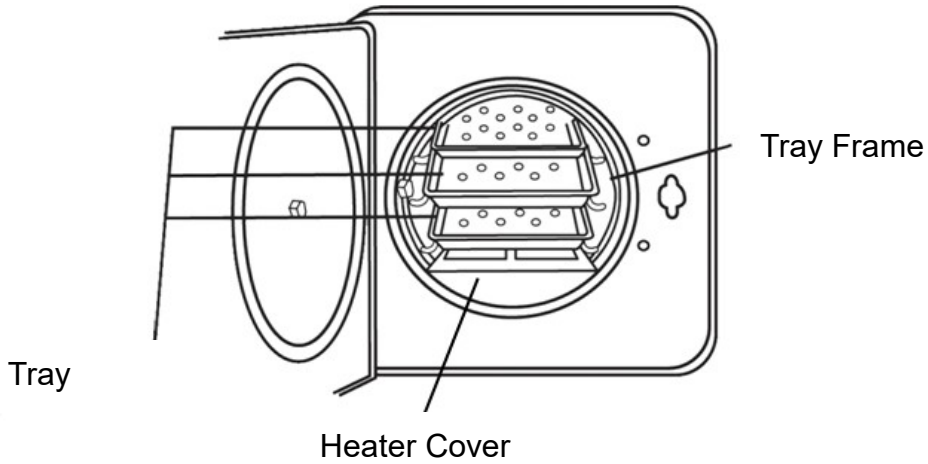

Figure 33 – Tray
G. Install the tray as shown in Figure 33. (standard accessory)